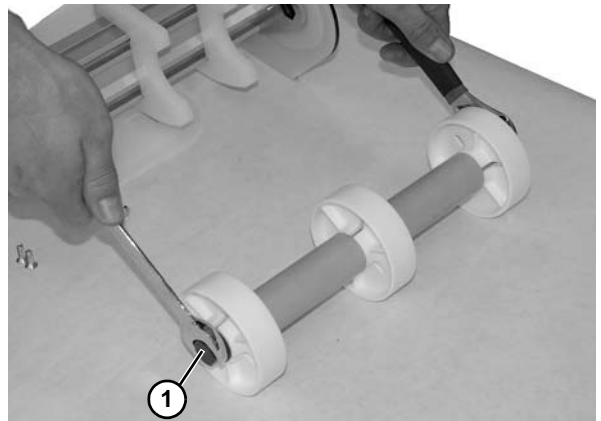

Figure 85
7. Use wrenches to remove both bolts (**Figure 85, item 1**) from each side of roller assembly.